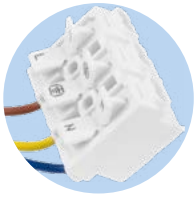

Fig. 7. Circulation pump connection block.
- Connect the circulation pump to the proper controller connection block (Fig. 7.)